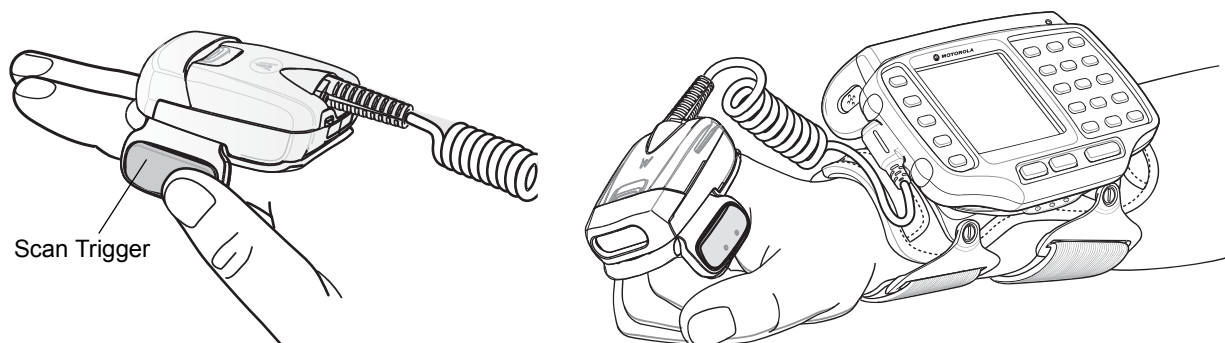

Figure 1-9 Wear the Imager - Corded Adapter
1. Slide the Imager onto the index and middle fingers with the Scan Trigger next to the thumb (see Figure 1-9).